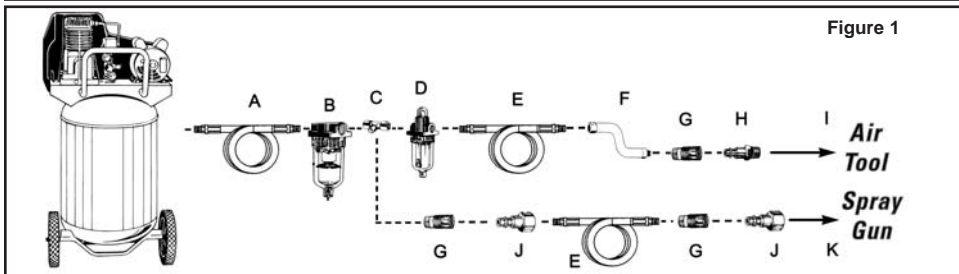

Figure 1
- As a standard practice, drain water from the air compressor tank and air lines prior to use each day (reference your compressor operators manual for detailed instructions). **NOTE: Failure to install appropriate water/oil removal equipment may result in damage to the spray gun or workpiece (see Figure 1).**